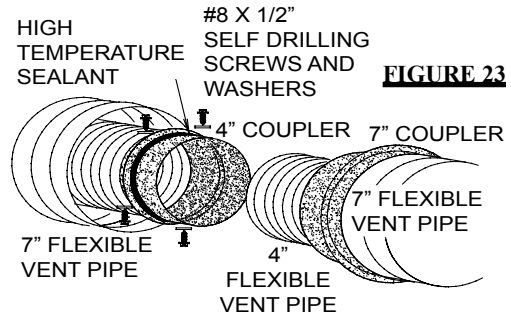

FIGURE 23
8. If more vent pipe needs to be used to reach the fireplace, couple them together as illustrated. The vent system must be supported approximately every 3 feet for both vertical and horizontal runs. Use noncombustible strapping to maintain the minimum 1" clearance to combustibles. Figure 23.